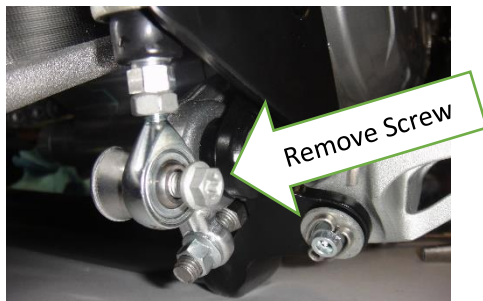

Figure 1
5. **Installing the Cable Adapter onto the Brake Pedal:** Figure 1 & 2